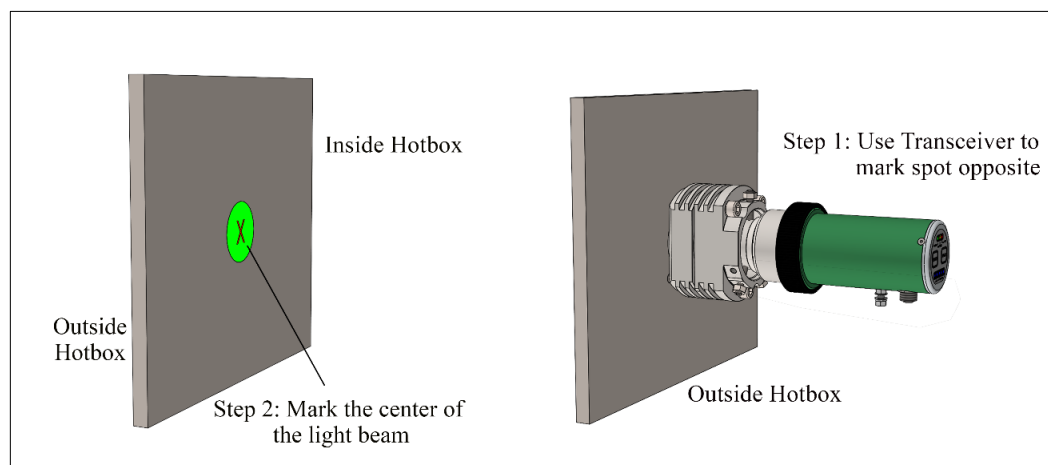

Figure 5-6: Mark the center of the light beam
- Use a marking pen to mark the spot where the light beam hits the hotbox wall structure opposite the transceiver - Figure 5-6. Mounting Reflector - refers to section 5.3.